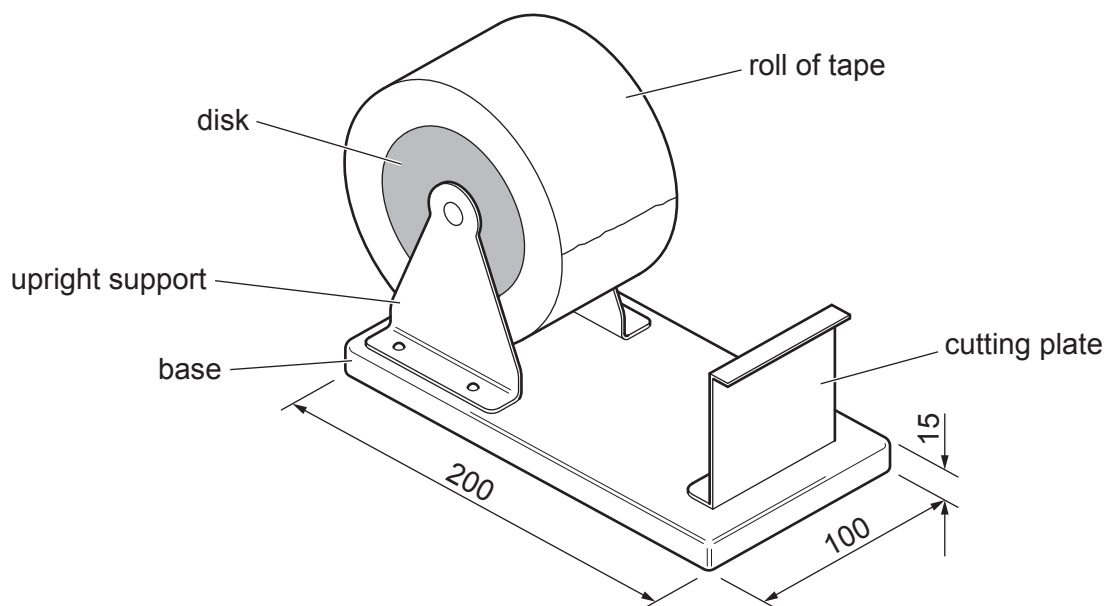

Fig. 12.1
- 12 Fig. 12.1 shows an incomplete design for a tape dispenser made mainly from 1.6 mm thick mild steel sheet. The tape dispenser could be made in a school workshop.